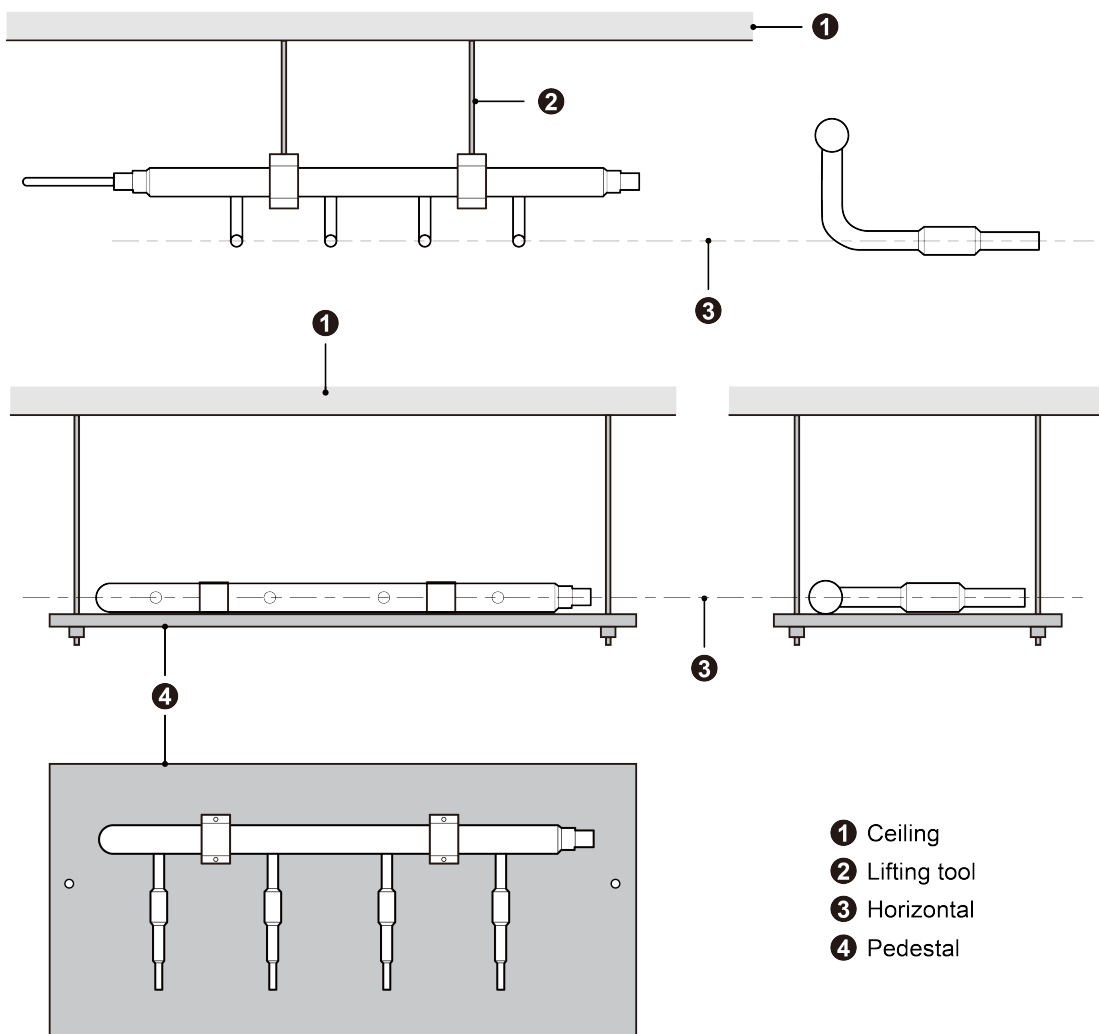

Fig.4.4.7
(4) Suspend the header to the ceiling, and be sure to install the T-type manifold so that the outlet pipes are horizontal at the lower side. See Fig.4.4.7.